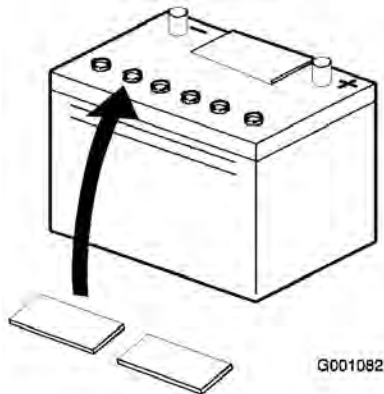

Figure 6
2. Clean the top of the battery and remove the vent caps (Figure 6).
5. Install the battery vent caps (Figure 6).